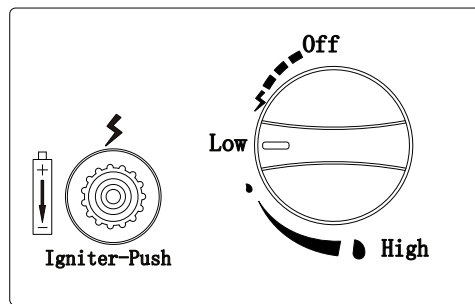

Figure 2
5. Press the control knob, turn counterclockwise to “Low” position, press and hold. When the burner lights, release the electronic igniter button (Figure 2).